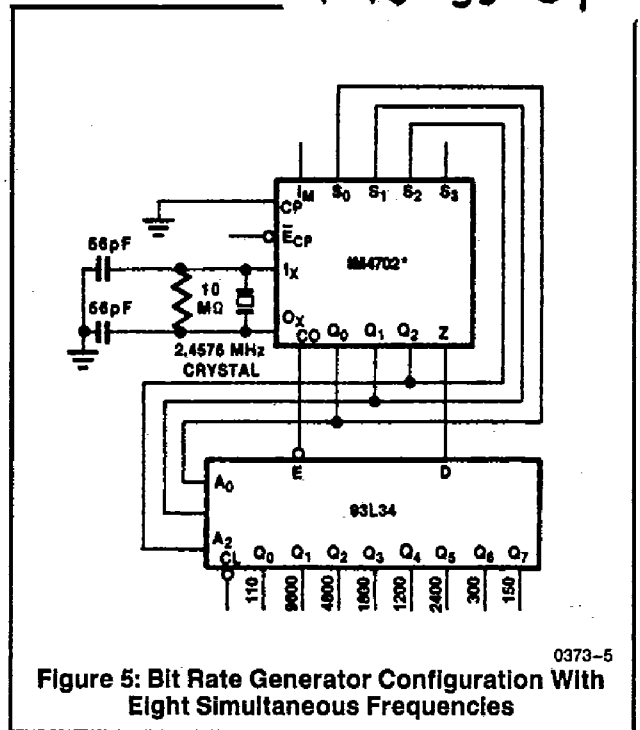

Figure 5: Bit Rate Generator Configuration With Eight Simultaneous Frequencies
Figure 5 shows a simple scheme that generates eight bit rates on eight output lines, using one IM4702/12 and one 93L34 Bit Addressable Latch. This and the following applications take advantage of the built-in scan counter (prescaler) outputs. As shown in the block diagram, these outputs (Q₀ to Q₂) go through a complete sequence of eight states for every half-period of the highest output frequency (9600 Baud). Feeding these Scan Counter Outputs back to the Select inputs of the multiplexer causes the IM4702/12 to sequentially interrogate the state of eight different frequency signals. The 93L34 Bit Addressable Latch, addressed by the same Scan Counter Outputs, reconverts the multiplexed single Output (Z) into eight parallel output frequency signals. In the simple scheme of Figure 5, input S₃ is left open (HIGH) and the following bit rates are generated: